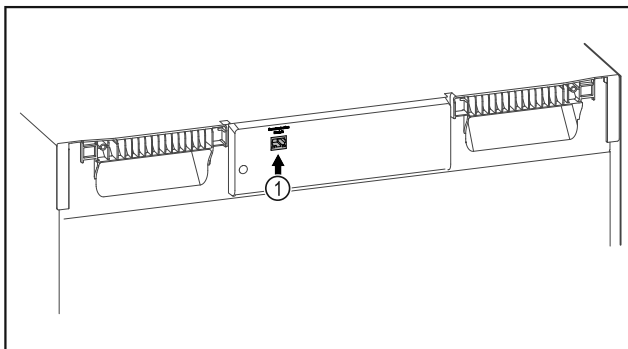

Fig. 88
- ❑ SmartModule Fig. 88 (1) is in use.